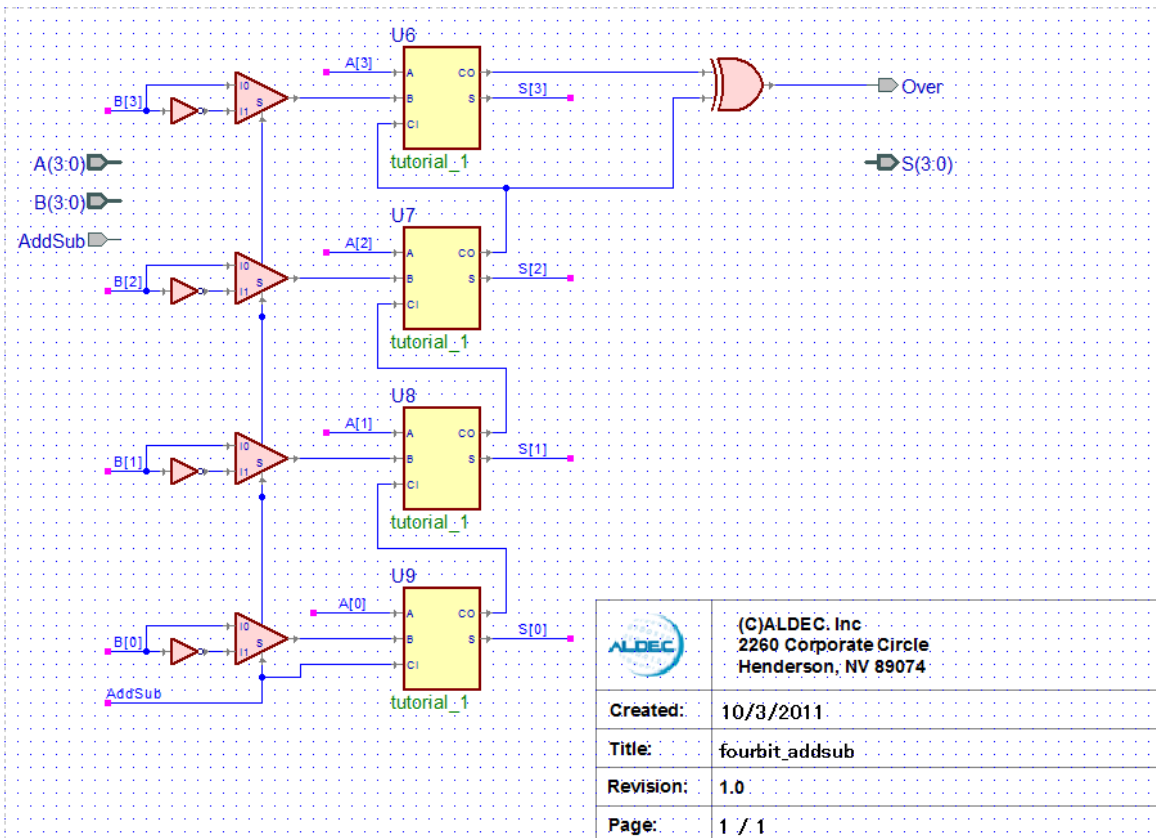

Figure 6
Figure 6 is an example of the schematic you will be designing in this portion of the tutorial. You already know how to place parts and connect them. However, this design uses buses as well as wires; therefore, you will learn how to use and connect buses. Additionally, you should gain a better understanding of how hierarchy is used to reduce the complexity of our designs.
- Place the parts from Figure 6 above into the design (use the 'lib370' library), and make the appropriate wire connections. You will find the multiplexor under the name "MUX2", and the inverter is under the name "INV".
As you can see in Figure 6, you can use the naming connections described in Tutorial #1 for connecting buses as well as wires. This is the simplest method and thus the method we will use. There are other ways to create so-called bus taps. Since we don't approve of them, we won't describe them. But you can (and should) take a look at the online documentation, which explains other kinds of taps, as well as the method used in this tutorial. To view the online documentation, go to Help/On-line Documentation in the menu bar.
Your design should now look like Figure 6. Now you are ready to test your design. In the “Test Fixtures” section of this tutorial, you learned how to place a block symbol for a design into a new schematic along with a block symbol for a test fixture and how to edit block symbols. Download the test fixture for the 4-bit adder/subtractor called addsub4\\_tf.v. Save, run the check diagram tool, debug (if necessary), and compile your 4-bit adder/subtractor design and follow the steps described in the “Test Fixtures” section to connect the block symbol of this design to the 4-bit adder/subtractor test fixture in a new schematic. Remember to follow the naming convention. The remaining steps will guide you through running a simulation with your test fixture as well as adding multi-bit signals to a waveform.